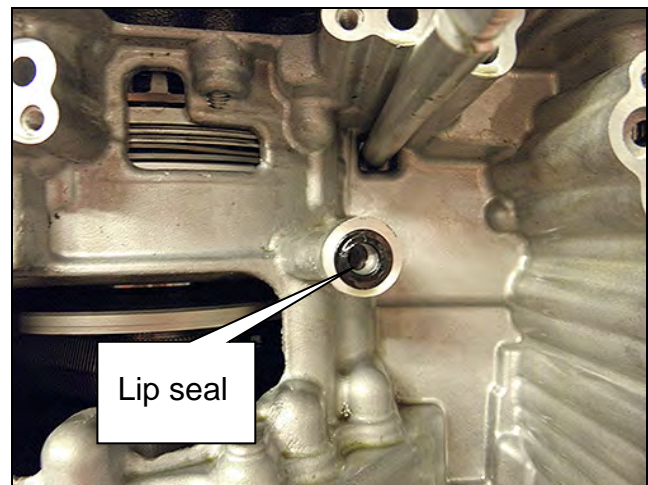

Figure 26
2. Install a new lip seal. Do NOT reuse the old lip seal (Figure 26).